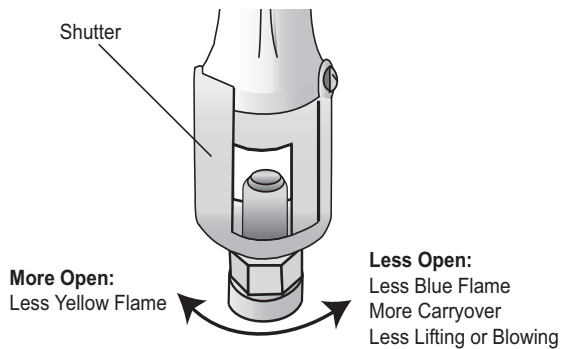

Figure 6: Bake Air Shutter Adjustment
1. Loosen screw and turn shutter. Close the shutter if the flame is lifting or blowing or not carrying over; open the shutter if it is too yellow. (See Figure 6). Tighten screw.